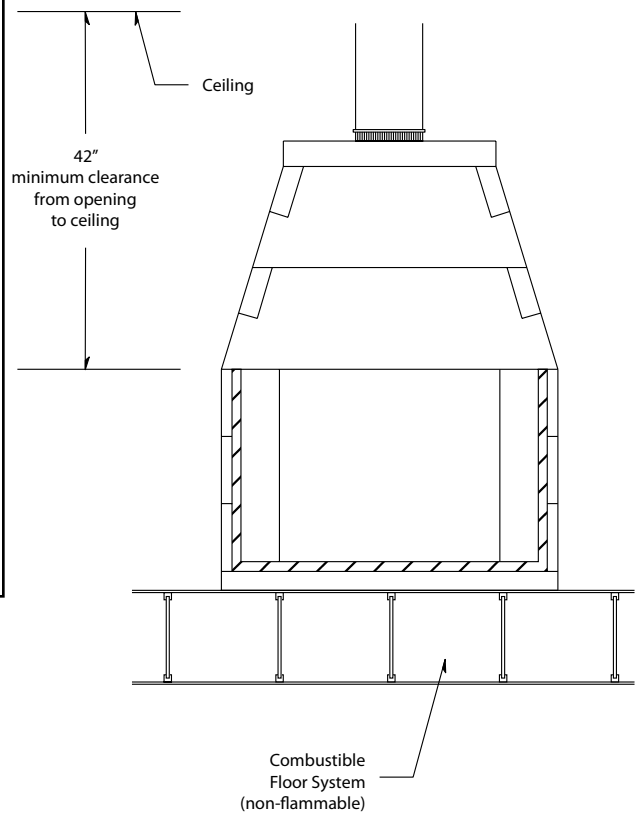

Figure 34
**Ceilings:** The minimum clearance from the top of the fireplace opening to a ceiling is forty-two inches (42"). (Figure 34)